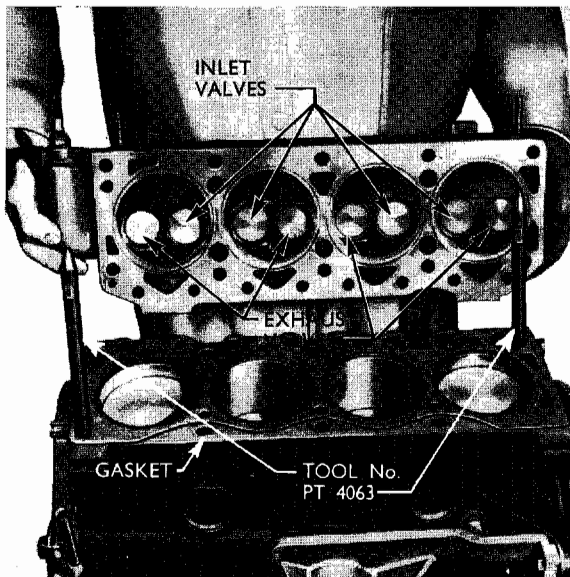

Fig. 26
**15. (a) Refit the cylinder head and gasket.** Check the head and block faces for burrs, etc., and locate the cylinder head gasket in position steel face downwards with the water port holes in the block and gasket in line. Screw the locating studs PT.4063 into diagonally opposite bolt holes on the block face to locate the cylinder head gasket (see Fig. 26).